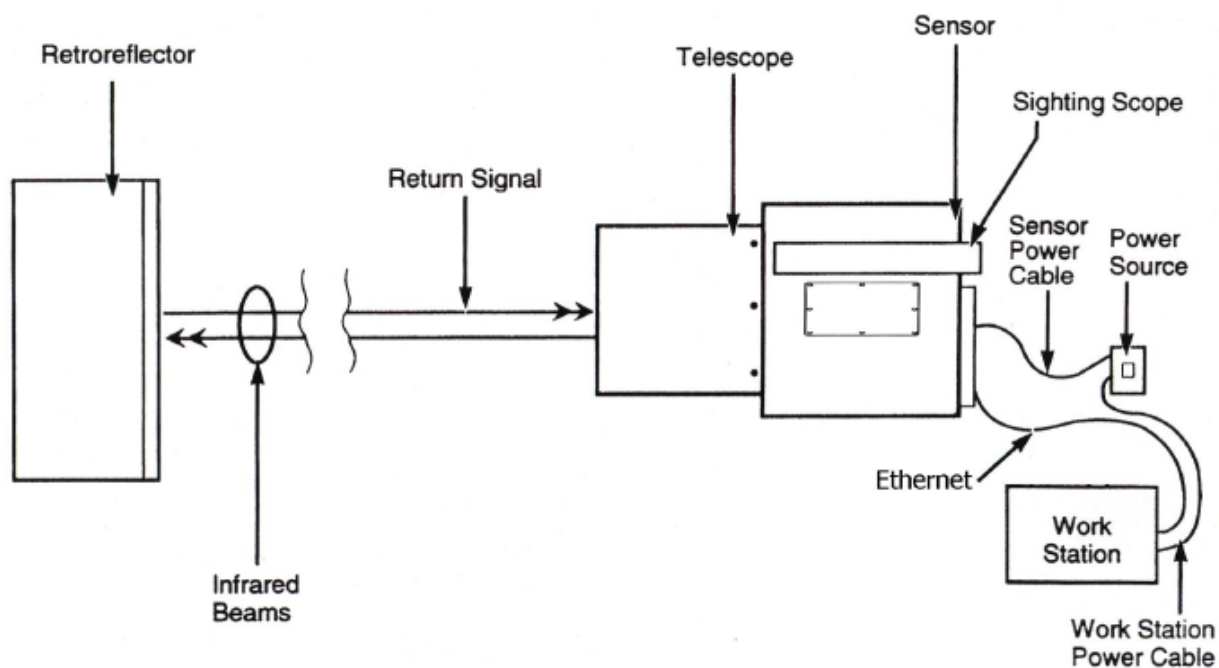

Figure 1. Schematic of the instrument.
The Cerex AirSentry FTIR monitoring system uses Infrared (IR) light for gas detection. The system works by first generating IR radiation from an extremely hot Globar source. The light from the source is directed down the open path using a Cassegrain long-path telescope. When the light reaches the opposite end of the path it is reflected using a retroreflector array back to the telescope which then receives the light and sends it to the detector. The Infrared detection system is based on a Michelson Interferometer with a cooled Mercury Cadmium Telluride (MCT) or Deuterated TriGlycine Sulfate (DTGS) detector. A schematic of the Cerex AirSentry FTIR monitoring system is shown in Figure 1.